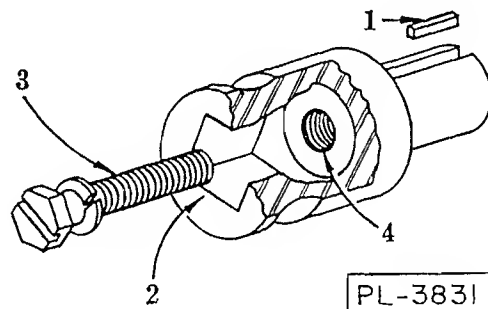

Fig. 8
The attachment drive is protected by a brass key (1, Fig. 8) that will shear if the load becomes excessive. To replace a sheared key it is only necessary to remove the square-drive sleeve (2, Fig. 8). The sleeve can be taken out through the attachment socket. The screw (3, Fig. 8) that holds the sleeve in has a left-hand thread; turn it clockwise to remove.
If the sleeve sticks and does not come out easily, insert a standard 3/8"-16 screw into the right-hand threads at (4, Fig. 8). The screw should be long enough to reach out where it can be grasped and used as a puller.